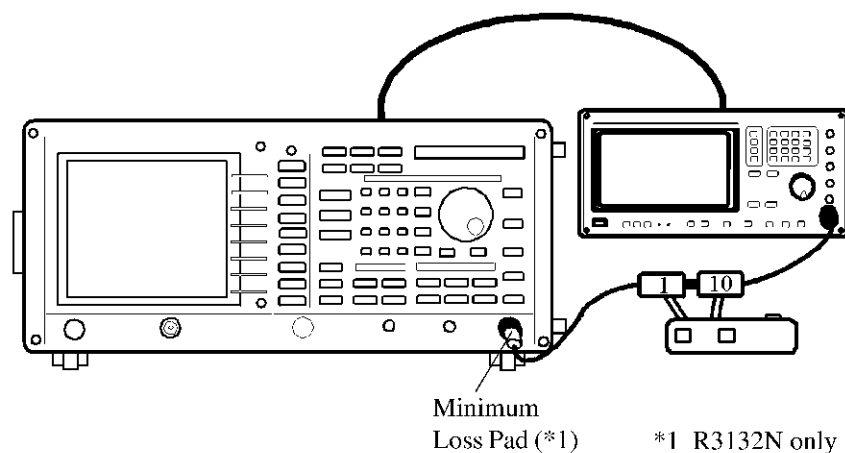

Figure 5-8 Setup of Input Attenuator Switching Accuracy Test (R3132/32N/62)
1. Connect the step attenuators as shown in Figure 5-8.